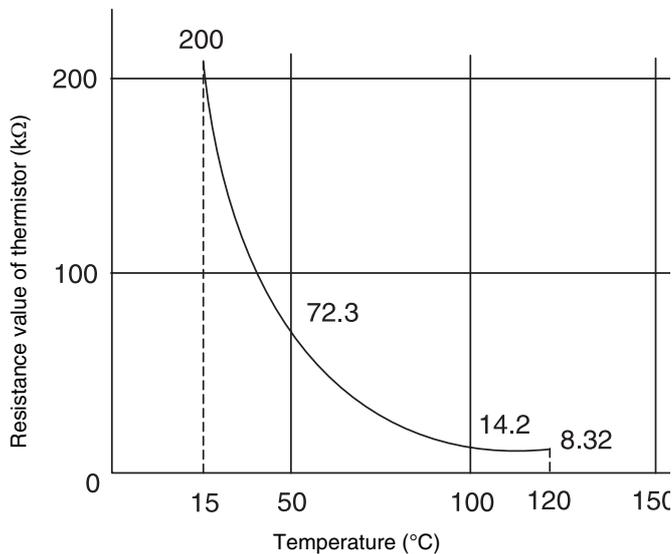

Fig. 10.1. Resistance values of the thermistor for overheating protection of the discharge gas
- If the temperature of the upper part of the compressor exceeds 127°C for 10 minutes, the compressor will stop. Even if an electronic expansion valve opens in that situation, the compressor will also stop. This way, the compressor is protected. Resistance values of the thermistor are shown in Fig. 10.1.